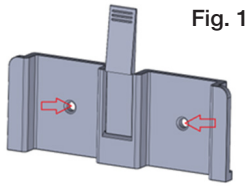

Fig. 1
- Secure the support bracket using the supplied wall plugs, ensuring that the anchoring is solid and stable. **(Fig. 1)**